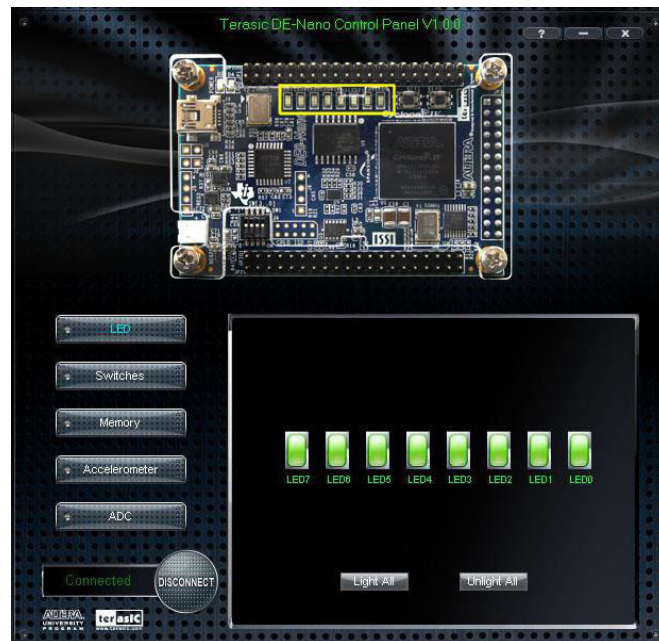

Figure 4-1 The DE0-Nano Control Panel
3. Start the executable *DE0\_NANO\_ControlPanel.exe* on the host computer. The Control Panel user interface shown in **Figure 4-1** will appear.